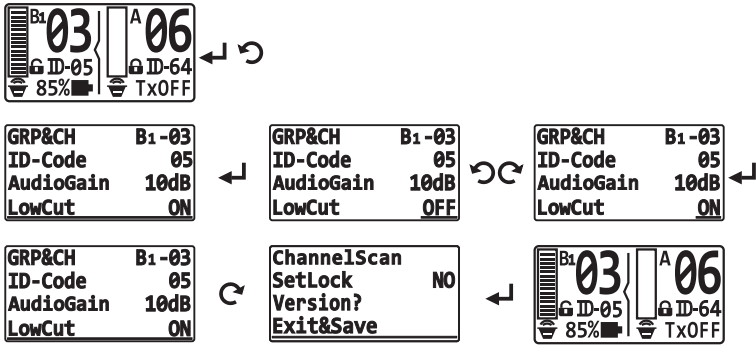

Fig. 22
6. Setting Low Cut Filter, see Fig. 22: